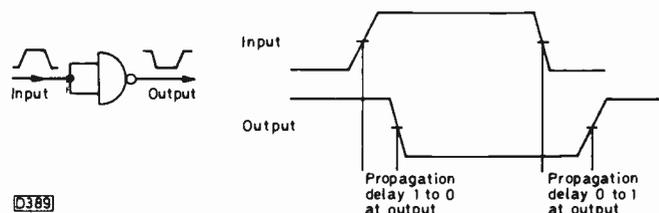

Fig. 24: Propagation delay.
**Propagation delay:** A measure of the speed of a logical function. It's the time from the midvoltage of an input voltage change to the midpoint at the corresponding output voltage change (see Fig. 24). Propagation delays for most functions are measured in nanoseconds.